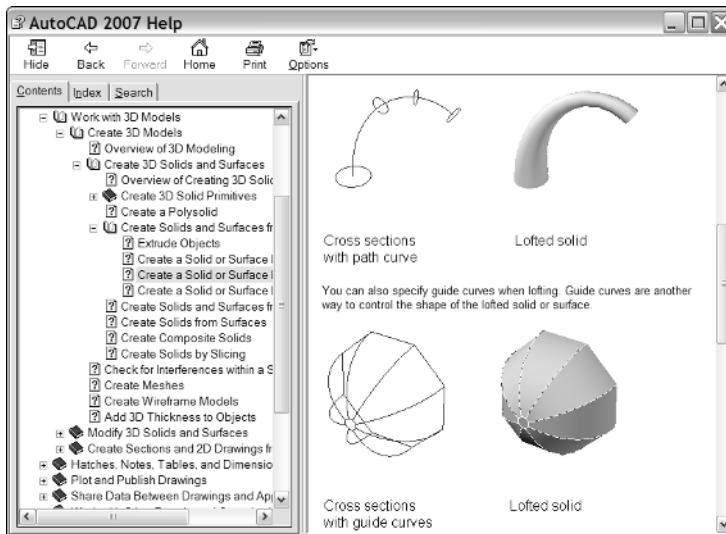

Figure 9-12:
- **Online help system:** Choose Help⇨Help, or press the F1 key. In the left pane of the Help window, expand User's Guide, and then click Work With 3D Models. Figure 9-12 shows a help section on lofts and sweeps. (We know, once upon a time this would have been in a printed manual!)